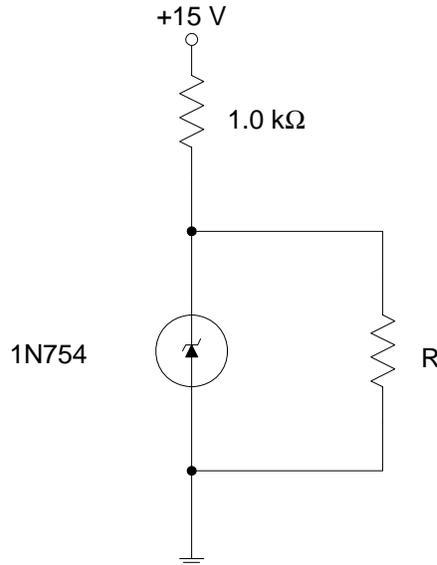

Figure 4: Circuit for Experiment 4.
2. Construct the circuit shown in Figure 4. Measure the voltage across resistor R for  $R = 10\text{k}\Omega$ ,  $R = 1.0\text{k}\Omega$ , and  $R = 100\ \Omega$ . [Q 4.1 What are the values of current flowing through the Zener diode for each of these three resistor values?]
3. Calculate the value of R in Figure 4 for which the Zener diode will no longer provide voltage regulation. Verify your calculation experimentally. [Q 4.2 Explain why the Zener stops regulating for certain values of R. Hint: think “voltage divider” or “current divider”.]